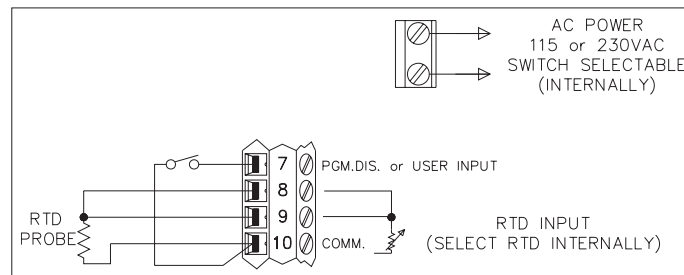

Figure 8, RTD Connection
B) Connect a shorting wire directly from terminal #9 to terminal #8, as shown in Figure 8, RTD Connection. A temperature offset error of $2.5^{\circ}\text{C}/\text{ohm}$ of lead resistance exists. The error may be compensated for by programming a temperature offset.